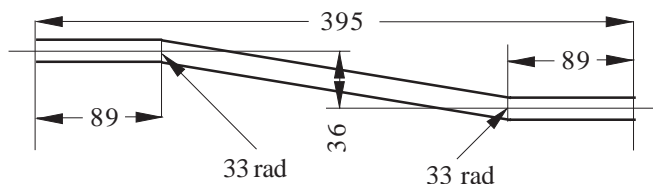

Fig. 2a
- Flow connection: (not JB40-50, MYSON HISPEC 15/20 or MYSON HISPEC 25/32) Referring to Fig. 2a, preform suitable length of copper pipe as shown, and connect to exit from either left or right as required.